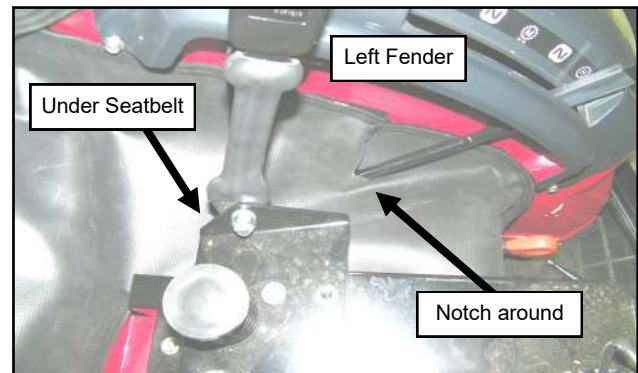

Fig. 24.4a (Install Under Seat Filler)
- 24.4** Slide the slits in the filler around the control levers on each fender and adhere. On the left side, the filler goes under the seat belt, over the PTO controls, and notches around the transmission lever. On the right side, the filler also goes under the seat belt, and notches around the 3 point hitch lever. See Figures 24.4a and 24.4b.